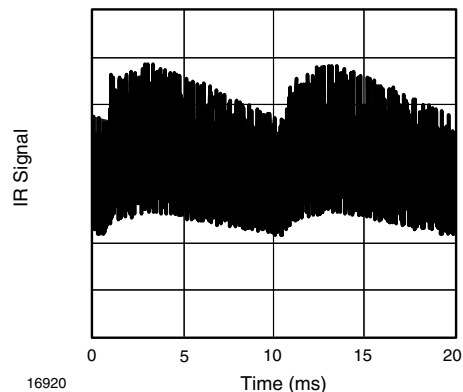
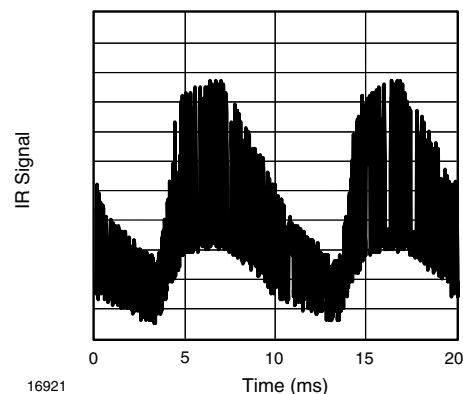

Fig. 13 - IR Signal from Fluorescent Lamp with Low Modulation
Fig. 14 - IR Signal from Fluorescent Lamp with High Modulation
- Strongly or weakly modulated noise from fluorescent lamps with electronic ballasts (see figure 13 or figure 14)